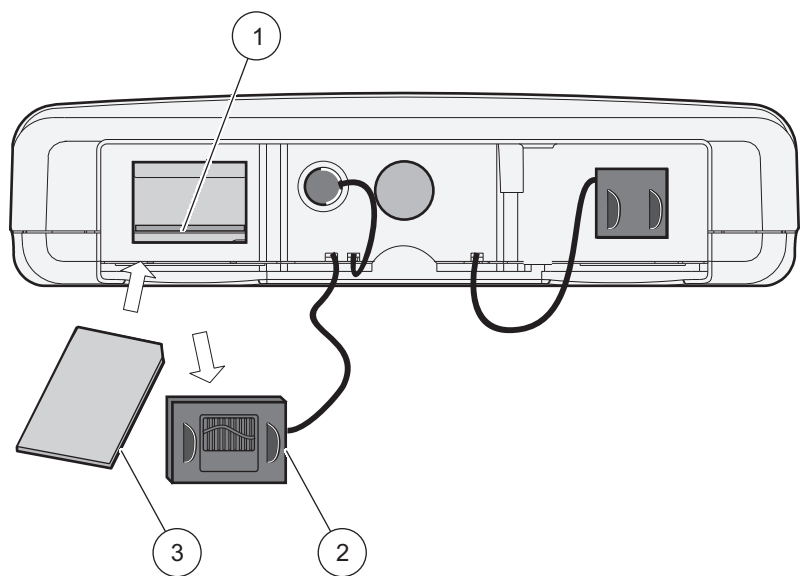

Figure 8 Underside of display module
4. Remove the cover of the SD card slot on the sc1000 controller display module (Figure 8).